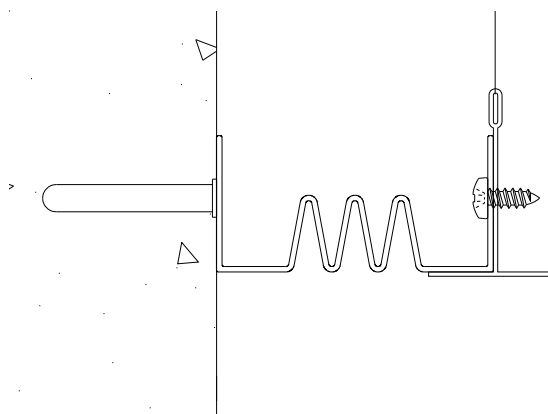

Figure 3
STEP 5. Place the seal back into its installed position. Ensure that the seal remains level and properly aligned. Ensure that the anchor holes in the seal are aligned with the anchor holes/plugs in the wall. Using the short screws provided by the factory, attach the seal to the ceiling tee (Figure 3). Standard anchor spacing is 20" o.c. with anchors placed a nominal 3" from each end of the seal.